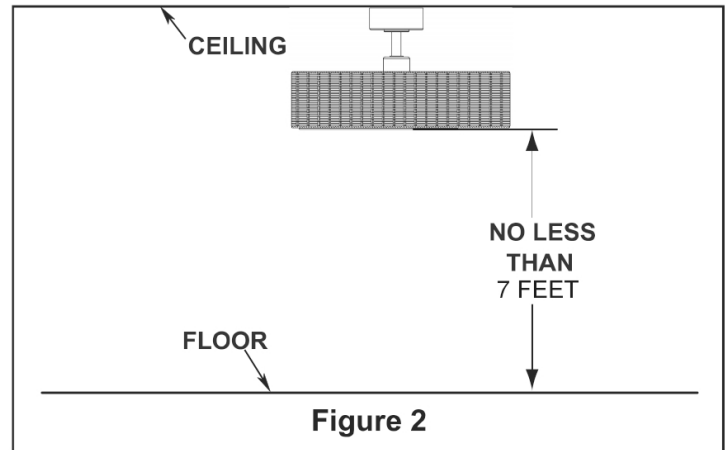
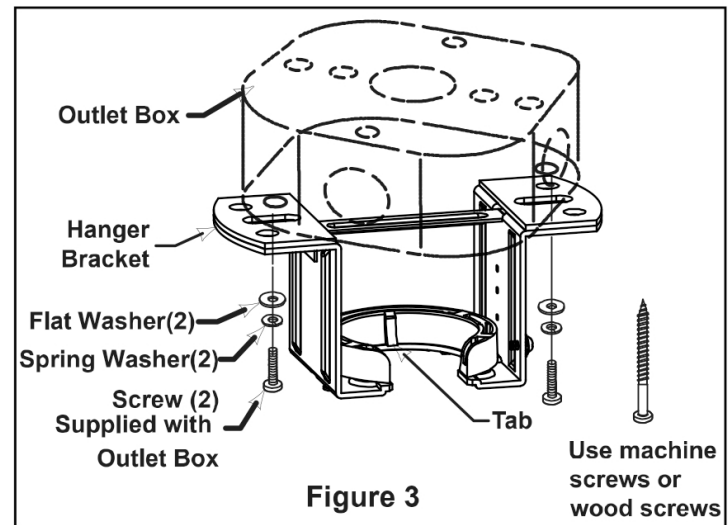

Figure 2
Figure 3
Your new ceiling fan will require a grounded electrical supply line of 120 volts AC, 60 Hz, 15 Amp Circuit. Electrical code requires use of a fan-rated outlet box to support the extra weight and motion associated with a ceiling fan. A fan-rated box will be labeled as such and typically supports up to a 70lbs ceiling fan. Fan-Rated Outlet Boxes vary in ratings and design. Ensure the ratings of your ceiling fan outlet box meet the requirements for the ceiling fan being installed. Figure 1, Figure 2 and Figure 3 depicts different structural configurations that may be used for mounting the outlet box.
## Deep-profile use (Figure 2)
## Brace Use (Figure 3):
- Remove the hairpin clip and clevis pin from the bottom of the downrod. Keep the pin and clip for reinstallation in Step 4. (Figure 2)
- Loosen the two set screws in the motor assembly's downrod support. Route the motor plug wire, and light plug wire through the downrod. (Figure 3)
Ensure the fan is hung with at least 7 feet of clearance from the floor to the ceiling fan. (Figure 2)
Use the screws and washers provided with the outlet box to securely fasten the hanger bracket. (See Figure 3)
- **1.** Slide the receiver into the hanger bracket with the flat side up towards the ceiling, as shown in figure 2.
- 2. Use the twist - lock mechanism to secure the screw cover in place. (See Figure 2)
- ❑ Restore electrical power to the outlet box by turning the electricity on at the main fuse box. (Figure 2)
- ❑ To make fan operational, Install two 1.5V AAA batteries. battery not included (If not used for long periods of time, remove battery to prevent damage to transmitter). Store the remote away from excessive heat or humidity. (Figure 3)